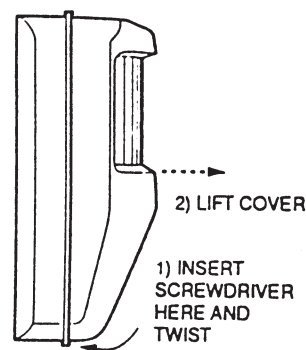

Figure 2. Cover Removal
1. Remove the front cover as shown in Figure 2.
1. Remove front cover by inserting a screwdriver blade (or small coin) in the groove between cover and base at the location shown in Figure 2, rotating blade to override snap fit, and then lifting cover off.